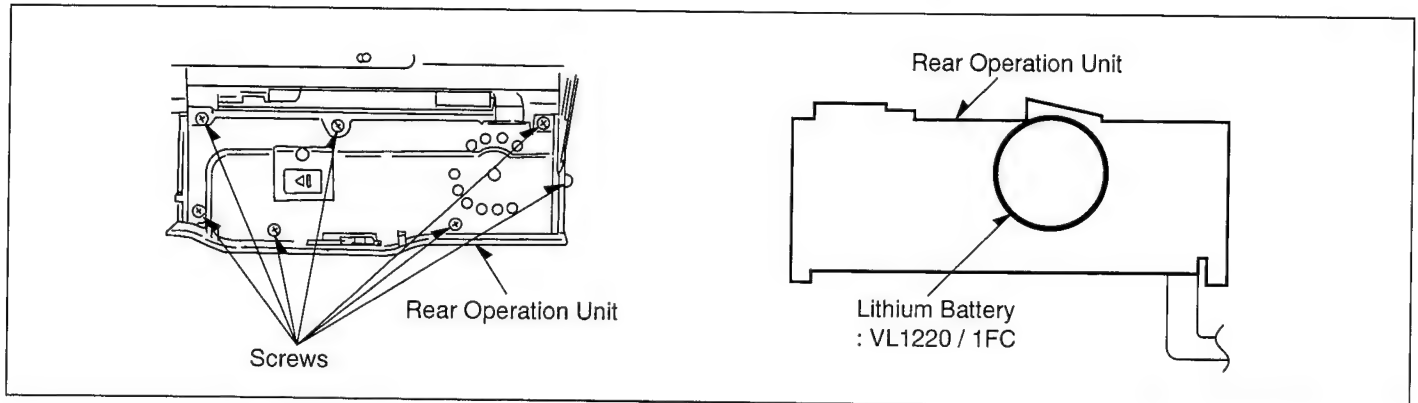

Fig. B1
1. Remove the 7 Screws. (See Fig. B1)
3. Unsolder the Lithium Battery "VL1220/1FC" and then replace the new one. (See Fig. B1)